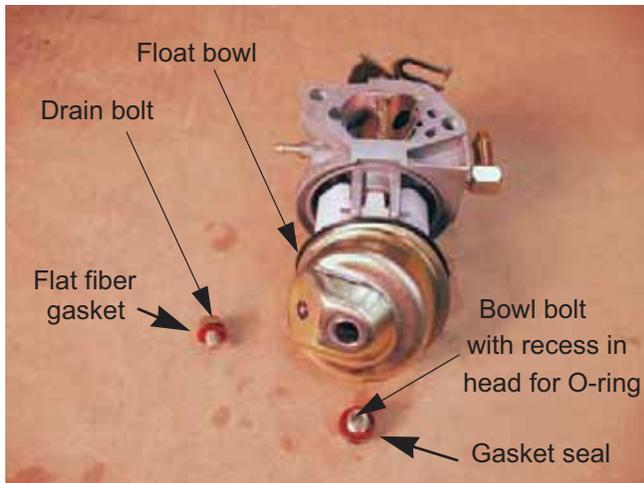

Figure 4.27
6. Remove the bowl bolt using a 10mm wrench. See Figure 4.27.